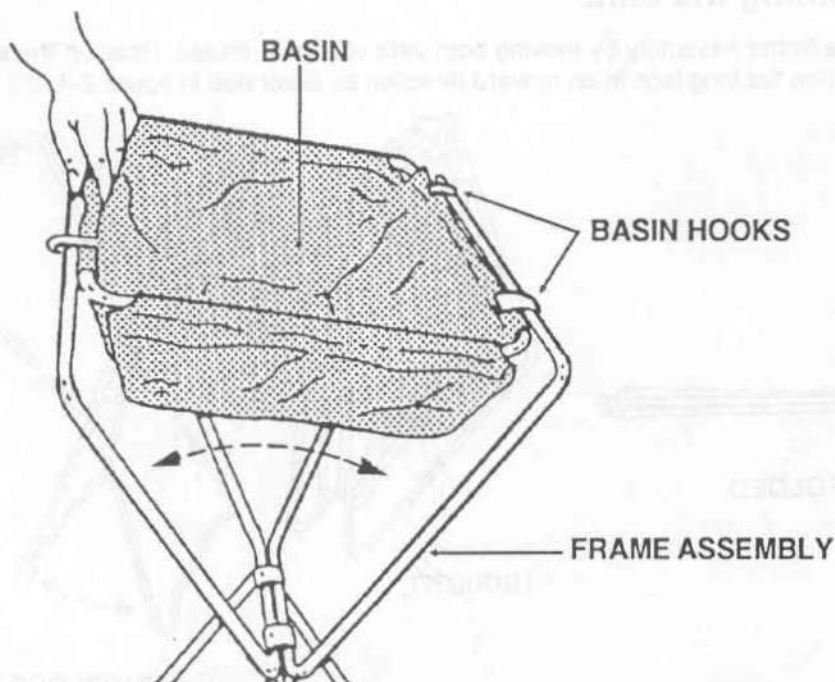

Figure 2-6. Basin installation.
c. Attach the basin assembly by clipping the four hooks onto the upper legs of the frame assembly and adjusting the legs outward as illustrated in figure 2-6.